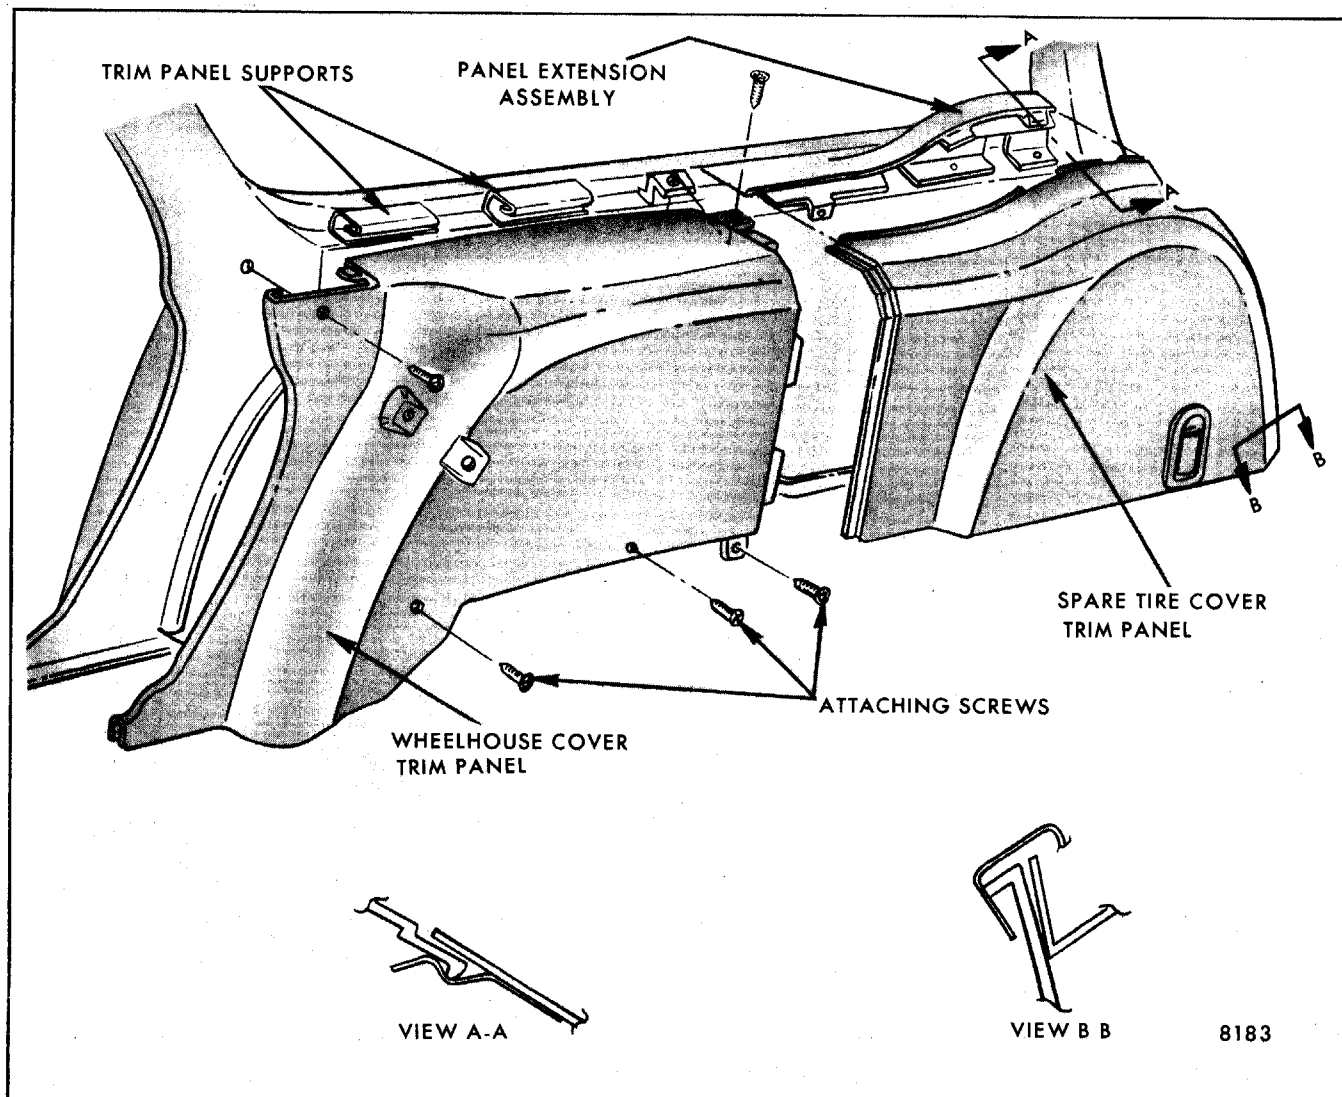

Fig. 6-21-Wheelhouse and Spare Tire Trim Cover Panel - "A" Station Wagon Styles
Removal and Installation (Refer to Fig. 6-21)
5. Disengage edge of trim cover panel from supports and move forward to release from lock pillar flange (Fig. 6-21).
On "A" styles the spare tire cover is retained by three tabs that engage the front flange of the wheelhouse panel when placed in position. The cover panel is also secured at the top by snap supports and along the back when inserted between the back body pillar molding and clip (Fig. 6-21). To remove cover, open catch and disengage panel by pulling inboard at rear and top. Then move panel rearward to separate from wheelhouse cover tabs.